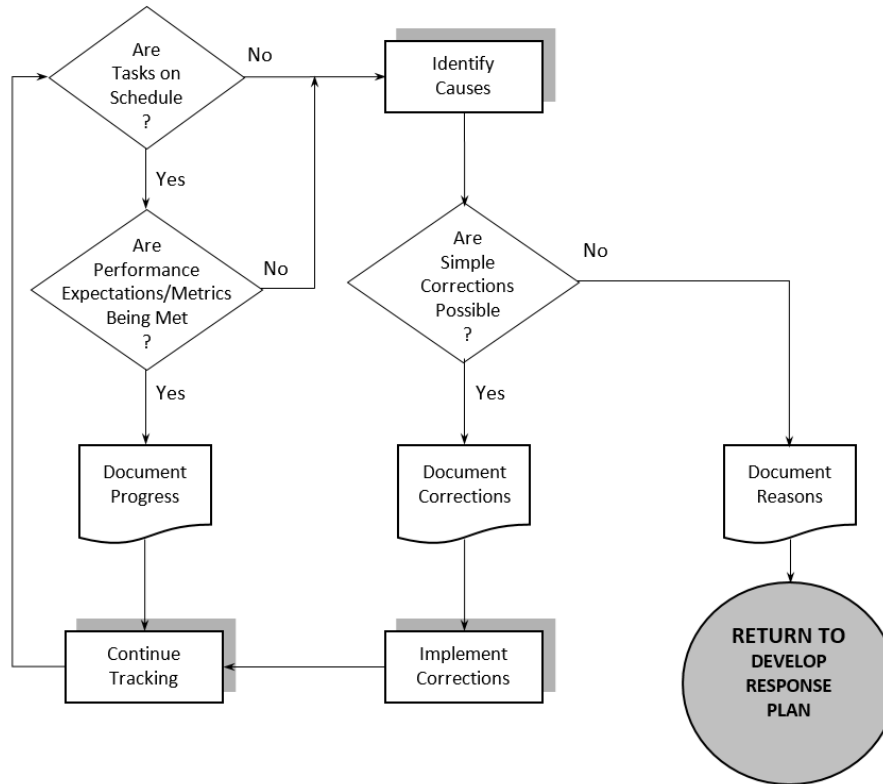

Figure 5
- Management of Change System (Figure 5)
Management of Change (Figure 5) is a key aspect of continuous performance improvement. Identifying the required changes and the objectives such changes are meant to achieve must be clearly spelled out. As shown in the flowchart, planning for change and the change process must be done carefully and not abbreviated. All change processes go through beginnings, middles, and ends that are reflected in the flowchart. From a performance standpoint, the outcome of any change must be satisfactory and positively contribute to continuous performance improvement.